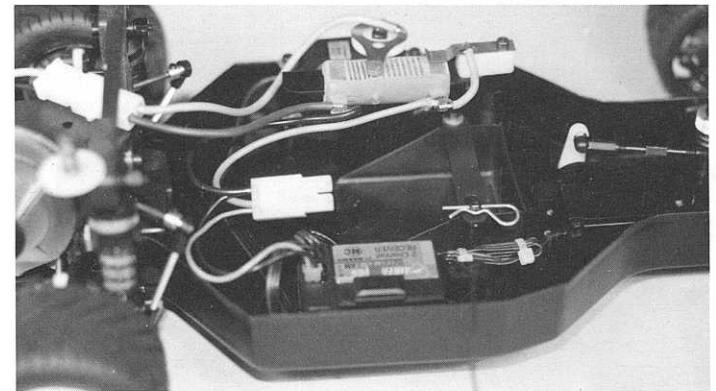

Fig. 148
11) Your radio should come with a on/off switch harness. On this harness one end is designed to plug into the B.E.C. connector on the #6747 battery input harness, and 12) the other end will look like the B.E.C. connector and will plug into the receiver battery slot (or Bat). **Note:** In fig. 148 we have bypassed the on/off switch harness and plugged the B.E.C. connector directly into the receiver. If you choose to do this, remember, you will need to unplug the connector each time you want to turn the car off or plug it in before you want to run the car.